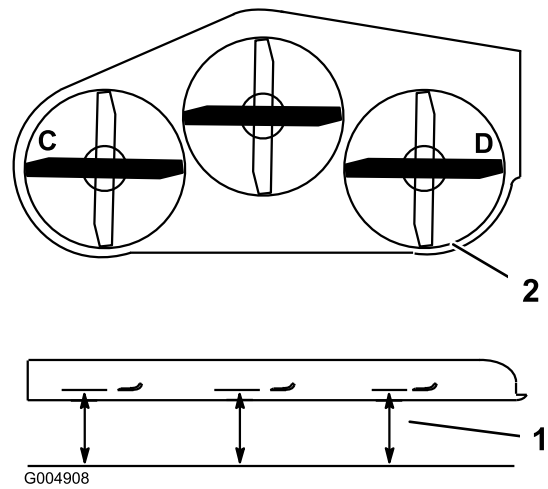

Figure 60
2. Position the blades side-to-side. Measure at C and D locations from a level surface to the cutting edge of blade tips (Figure 60).